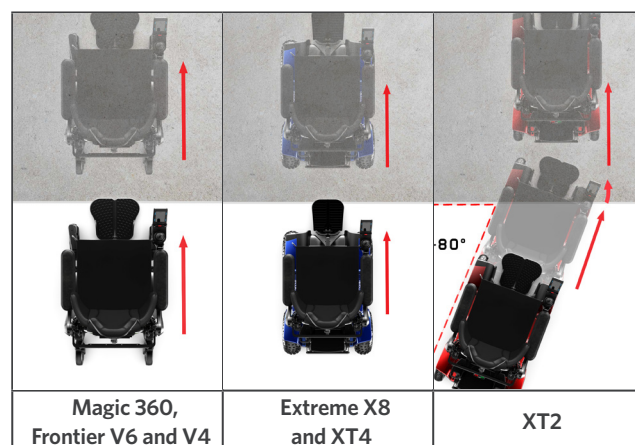

Figure 3.1 - Approaching an obstacle
- Magic 360, Frontier V6 and V4, Extreme X8 and XT4: Always approach an obstacle so both front wheels touch the obstacle together (Figure 3.1)
- XT2: Approach the obstacle so both wheels touch the obstacle together or on a slight angle (Figure 3.1)